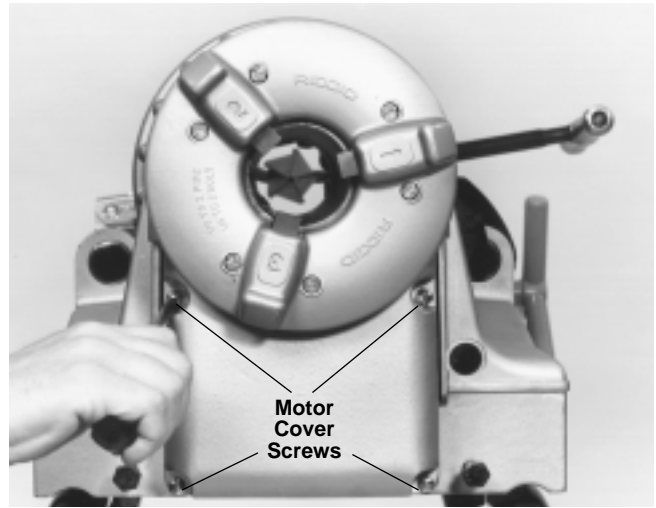

Figure 23 – Loosen And Remove Motor Cover Screws
2. Fully loosen four screws that hold motor housing cover in place and remove motor housing cover (Figure 23).